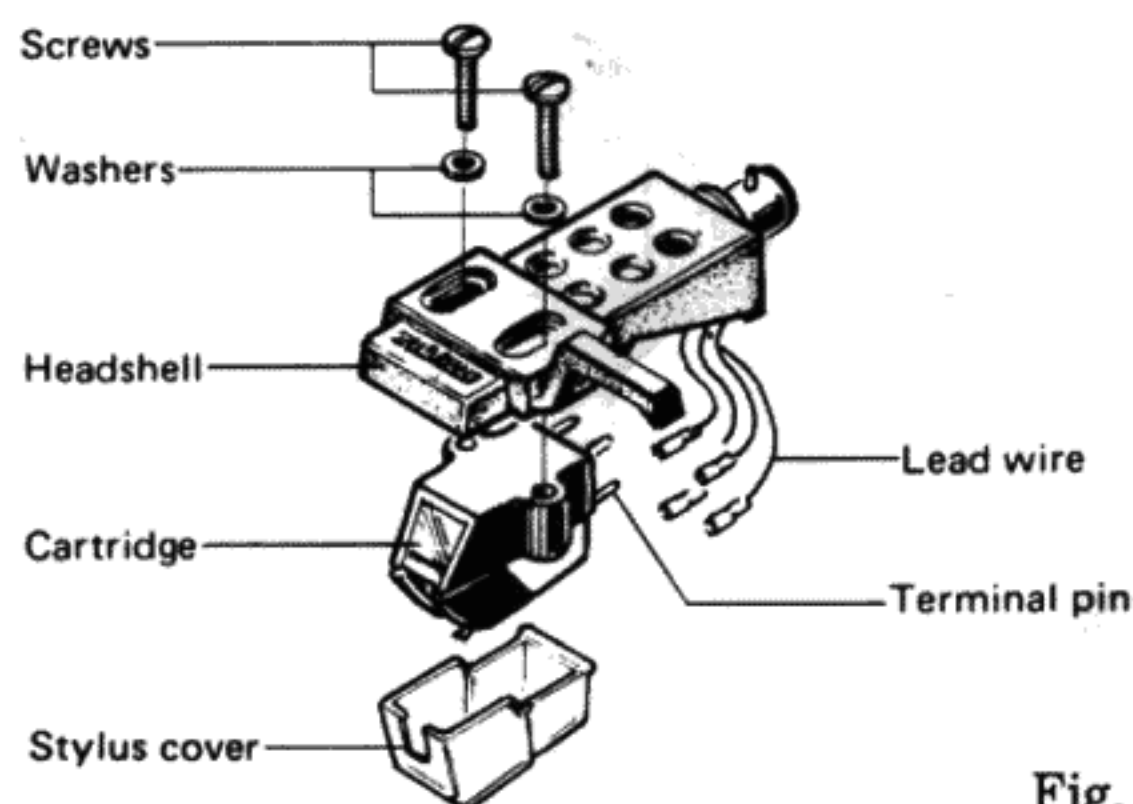

Fig. 2
3. Attach the cartridge lightly to the headshell using the screws, nuts and washers (Fig. 2).